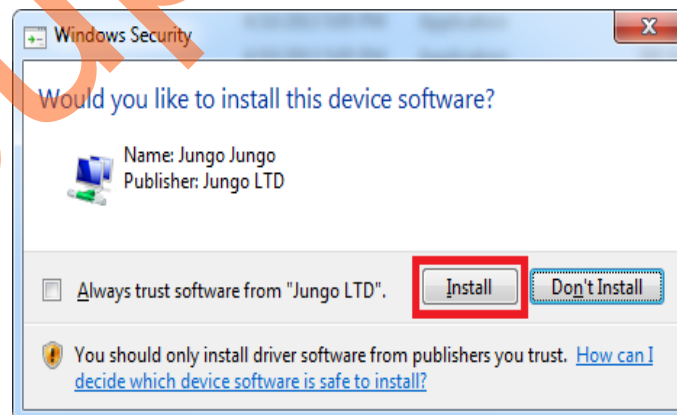

Figure 11 • Jungo Driver Installation
3. If the **Windows Security** dialog appears asking if to install or not, click **Install**. Figure 11 shows the Jungo Driver Installation in the **Windows Security** dialog.